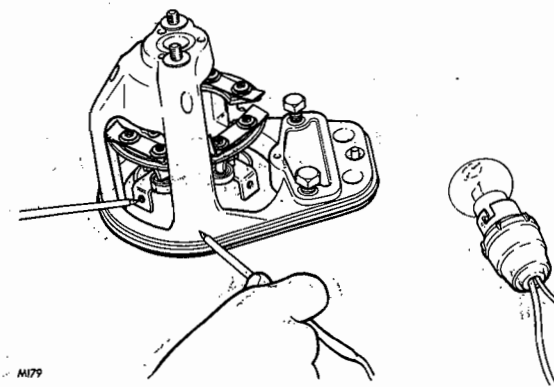

FIG. 5. CHECKING THE BRUSH GEAR (b)
- b. The positive brush holder and the frame (Fig. 5).